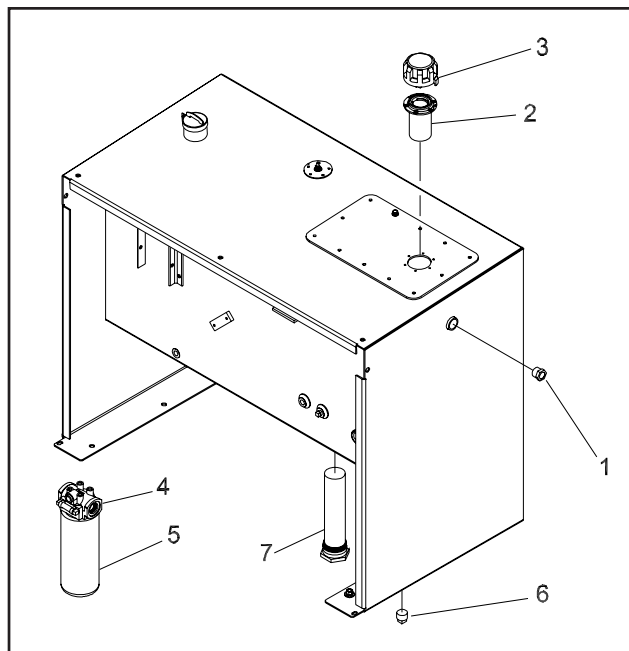

FIGURE 4-6. HYDRAULIC RESERVOIR
A 25 gallon hydraulic reservoir and filter(s) complete the Hydraulic System (Figure 4-6). This manual contains general system maintenance guidelines. Detailed service and maintenance information is available directly from the hydraulic component manufacturers if necessary.
The hydraulic reservoir is located in the engine compartment on the right side of the machine. The fill cap is on top of the front engine panel. The hydraulic reservoir has a sight gauge on the right side used to monitor hydraulic oil levels. Refer to Figure 4-6.
1. Check the level of hydraulic oil prior to each day's operation of the broom. Hydraulic oil should be visible in the sight gauge (Figure 4-6, item 1). If not, fill the tank until oil is visible in the sight gauge.
2. The fill cap strainer (item 2) should be cleaned each time hydraulic oil is added or changed.